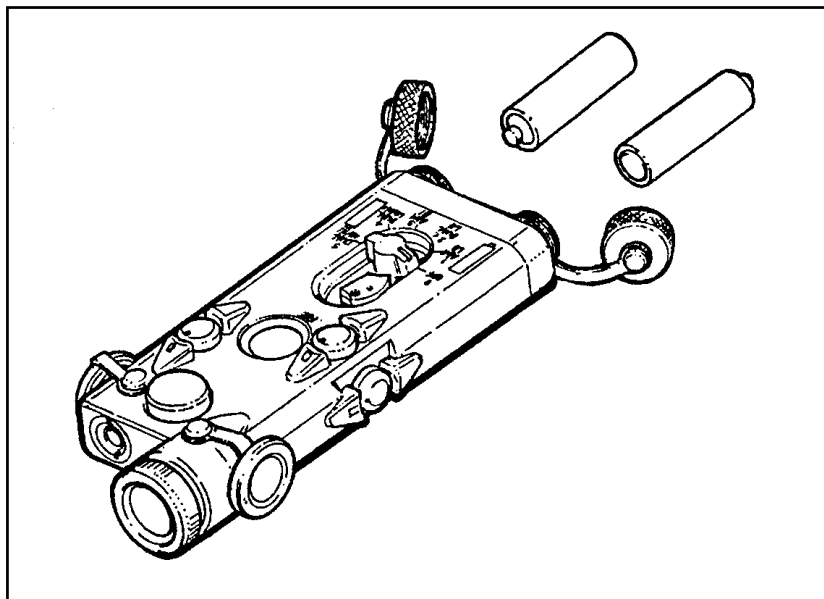

Figure F-7. AN/PEQ-2A battery installation.
(1) **Battery Installation** (Figure F-7).